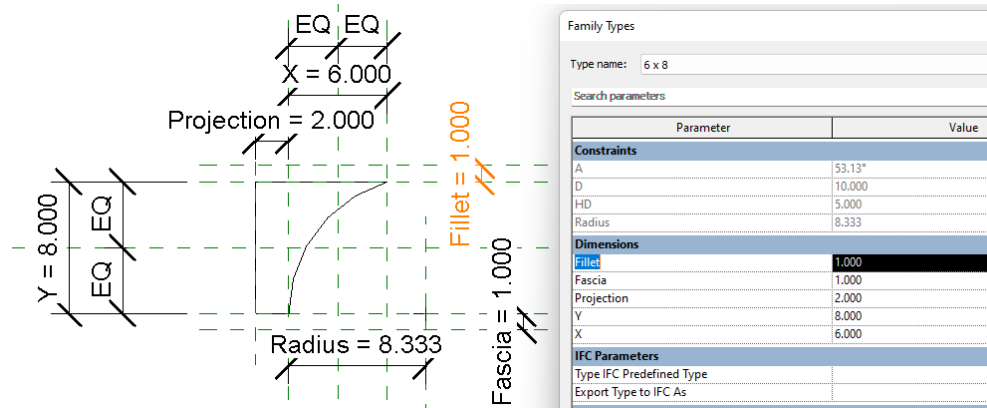

Figure 30—Add new parameters
- ⇒ Open Family Types and flex to be sure they are functioning properly (see Figure 30).